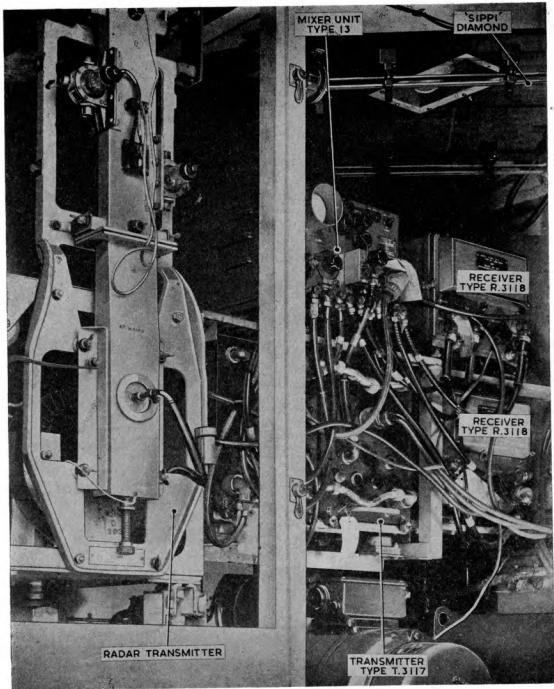

Fig. 18. IFF Mk. 3A : general view in R.V.461C
**63.** A view of IFF Mk. 3A, in position in the aerial vehicle, is given in fig. 18.